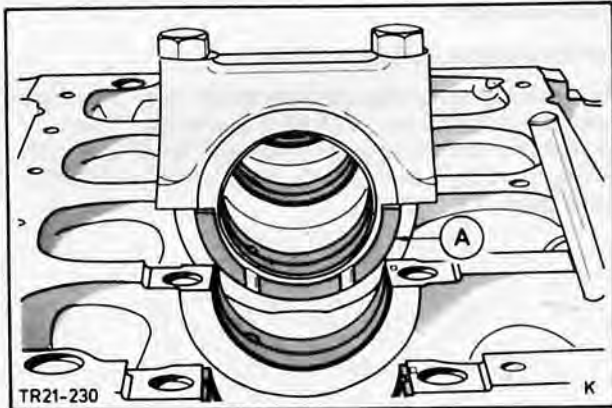

Fig. 45. Cylinder block with half thrust washer fitted
32. Lift crankshaft out of the cylinder block, remove bearing shells and both half thrust washers of middle main bearing, Fig. 45, and mark for possible re-use.